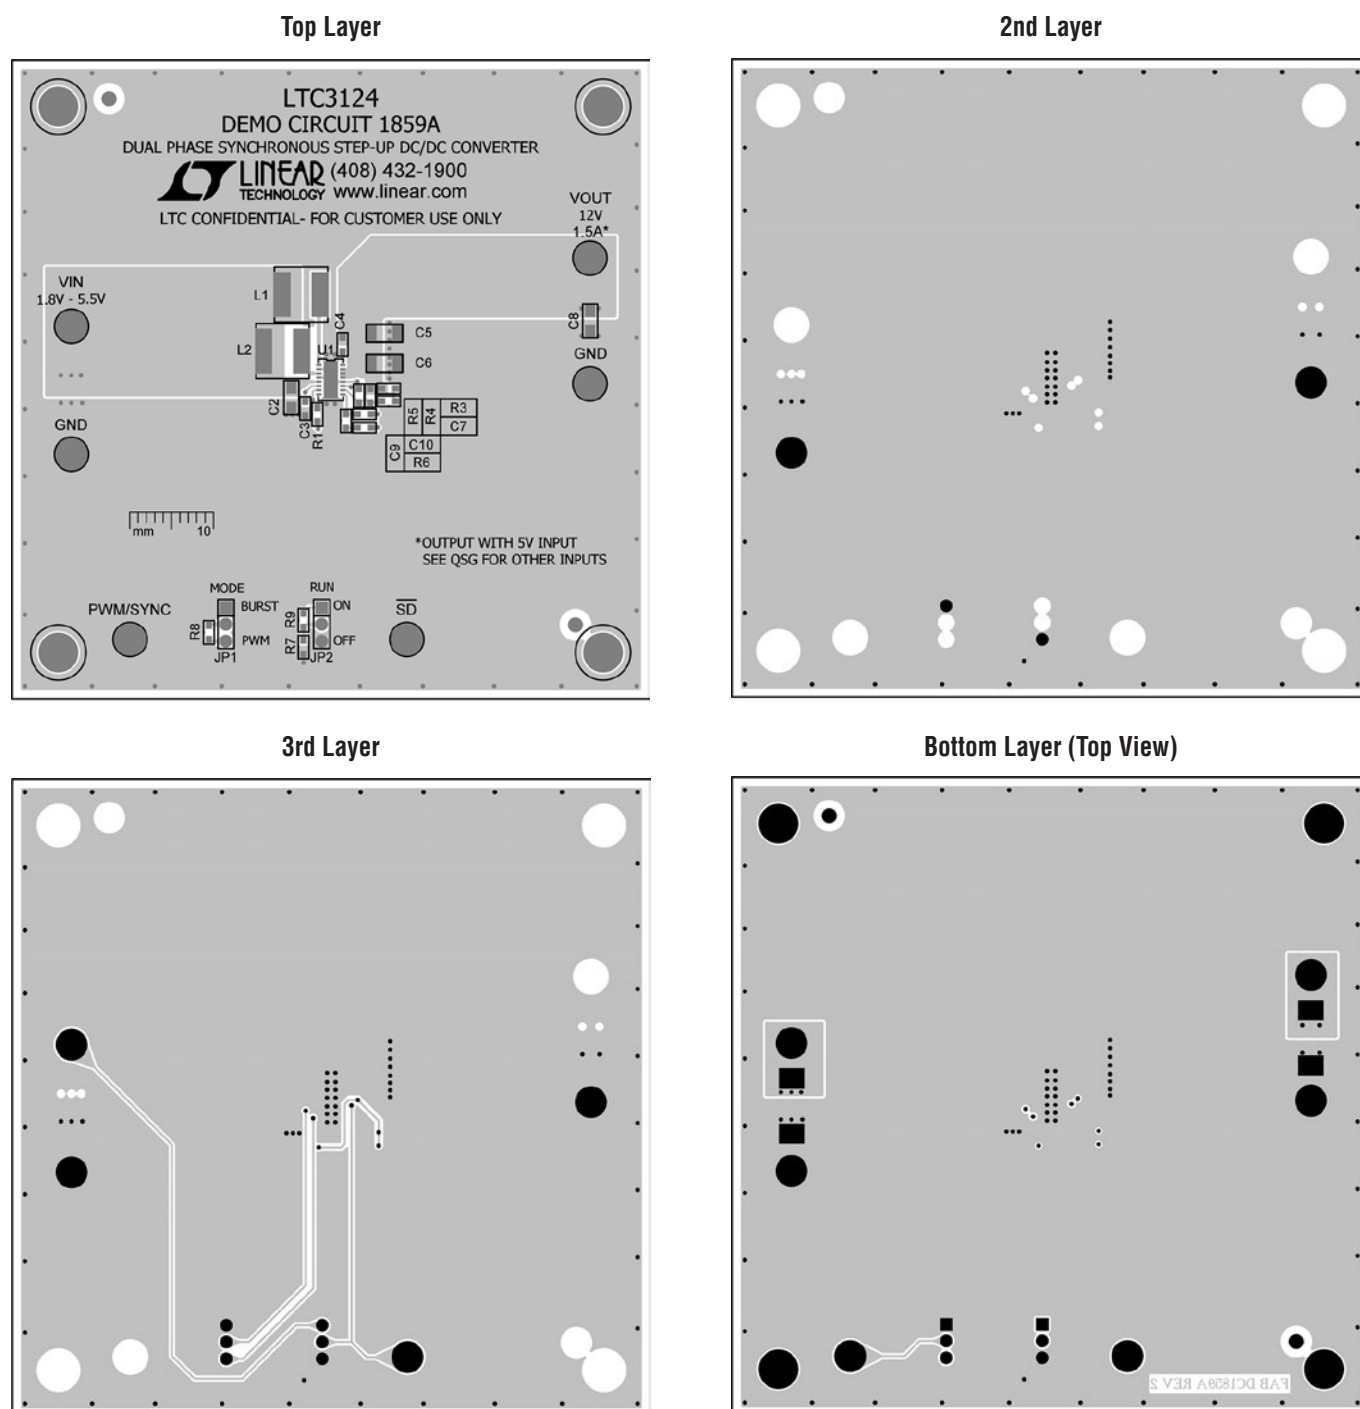

Figure 6. Example PCB Layout
The LTC3124 switches currents as high as 4.5A at high frequencies. Special attention should be paid to the PCB layout to ensure a stable, noise-free and efficient application circuit. Figure 6 presents the LTC3124's 4-layer PCB demo board layout (the schematic of which may be obtained from the Quick Start Guide) to outline some of the primary considerations. A few key guidelines are outlined below:
1. A 4-layer board is highly recommended for the LTC3124 to ensure stable performance over the full operating voltage and current range. A dedicated/solid ground plane should be placed directly under the  $V_{IN}$ ,  $V_{OUTA}$ ,  $V_{OUTB}$ , SWA, and SWB traces to provide a mirror plane to minimize noise loops from high  $dI/dt$  and  $dV/dt$  edges (see Figure 6, 2nd layer).
2. All circulating high current paths should be kept as short as possible. Capacitor ground connections should via down to the ground plane in the shortest route possible. The bypass capacitors on  $V_{IN}$  should be placed as close to the IC as possible and should have the shortest possible paths to ground (see Figure 6, top layer).
- Crossover connections should be made on inner copper layers if available. If it is necessary to place these on the ground plane, make the trace on the ground plane as short as possible to minimize the disruption to the ground plane (see Figure 6, 3rd layer).